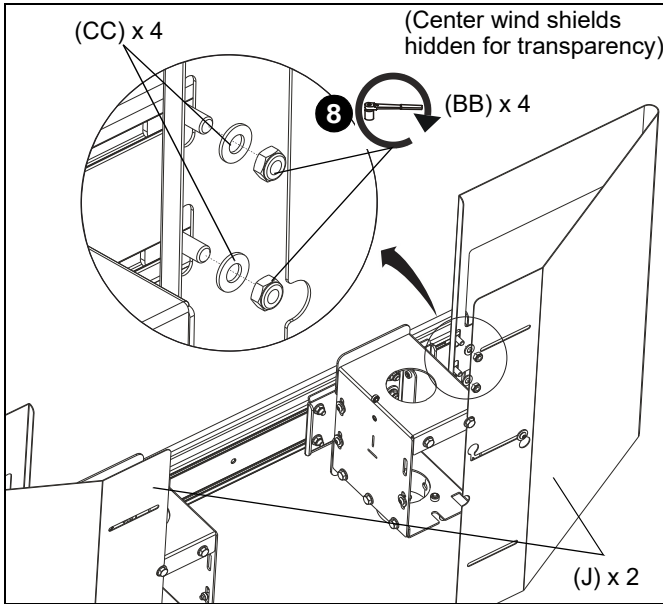

Figure 13
8. Use four 5/16-18 hex nuts (BB) and four 5/16" washers (CC) to secure four wind shield connectors (HH) to side wind shields (J). (See Figure 13)